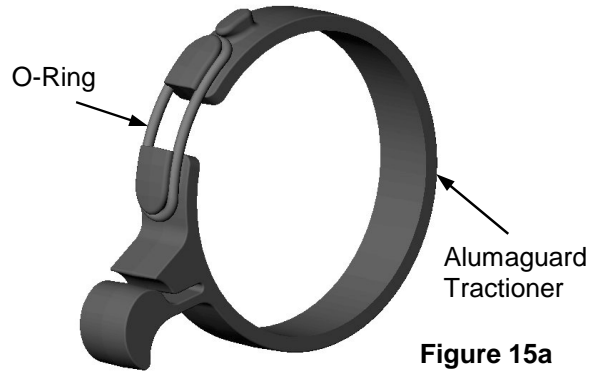

Figure 15a
A. Grasp the Alumaguard Tractioner and O-Ring (shown in figure 15a) and disconnect one end of the O-Ring from the keeper on the Tractioner.